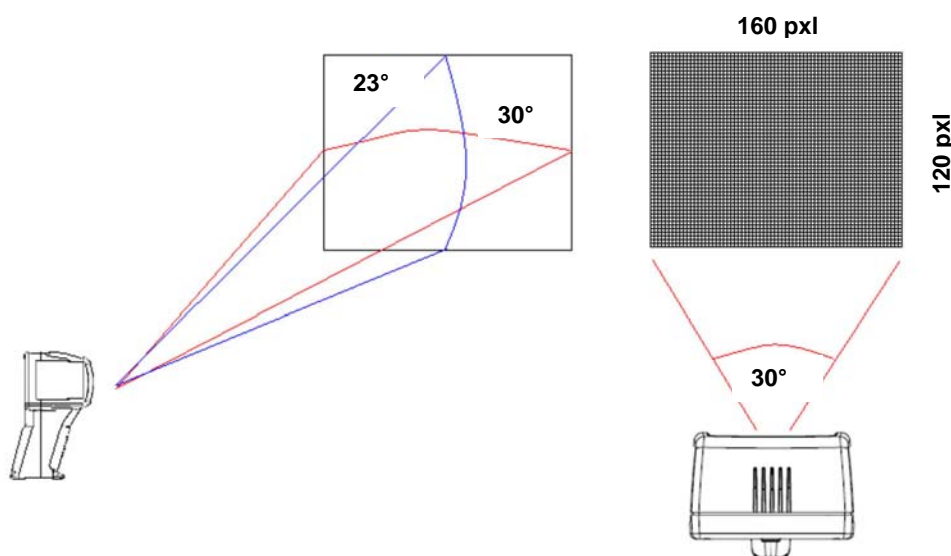

Fig. 71: Representation of the instruments field of view (FOV)
4. For accurate temperature measurements, make sure the surface of the measured object is always bigger than the surface measurable by the instrument, which is given by the instruments field of view (FOV). The instrument has a field of view of $30^\circ \times 23^\circ$ and a detection vector of 160x120 (19200) pixels (see Fig. 71).